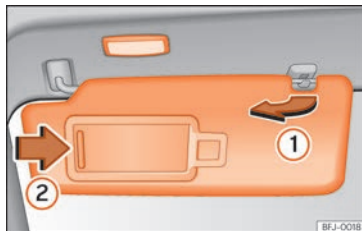

Fig. 111 Sun visor
- The sun visor can be pulled out of its mounting and turned towards the door >>> **Fig. 111 ①**.